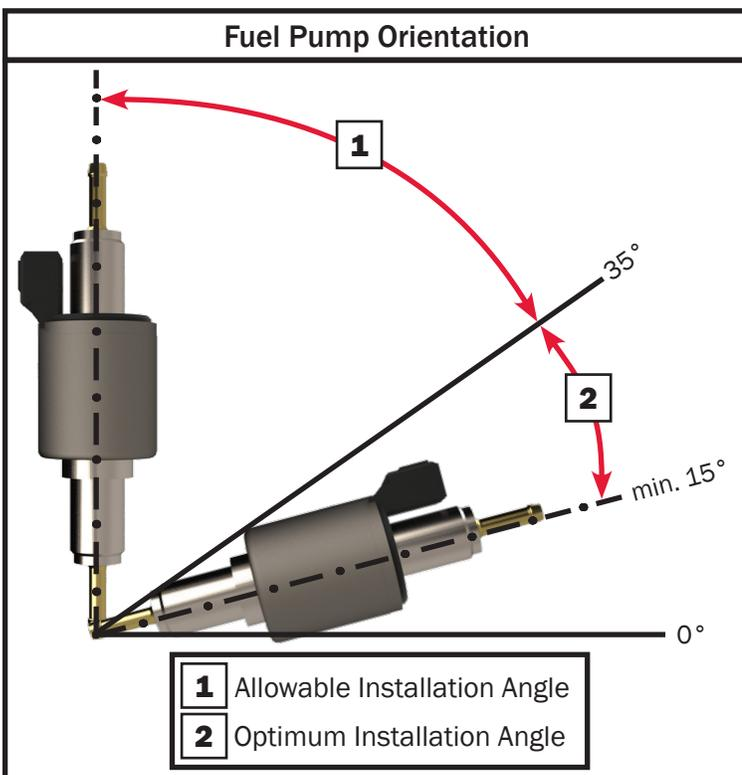

Figure 90.
- Use the provided Ø4mm x 1mm (to heater - transparent) fuel hose and Ø2mm x 5mm (to fuel tank - blue) fuel line with the included couplers and clamps. See Figures 90 & 96
- The fuel hose should not be descending from the fuel pump to the burner - see Figure 90.
- The fuel line must be secured to the connections and couplers by hose clamps. See Figures 90 & 96.
- The fuel filter should be installed before the fuel inlet of the fuel pump. Make sure orientation and position of the filter is accurate with the flow of fuel. Reference Figure 90 & 94.
The two types of clamps used are shown below in the install bags. The clamps are color-coordinated on the bags and also the diagram in Figure 90 to avoid any confusion.
Make sure to confirm the correct couplers and clamps are placed properly according to the diagram in Figure 90. The clamps must be crimped properly using the cinch clamp crimping tool as shown above in Figure 95. Using soapy water or PAM on the fuel lines can assist in sliding the couplers on.